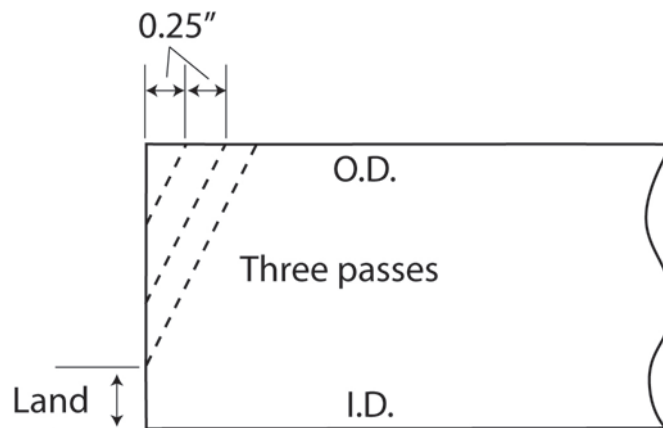

Figure 3-40. The diagram shows a straight bevel using multiple passes. Set the tool holder depth about 1/4" further back along the pipe O.D. for each pass.
- 10.** Loosen the tool holder cover screws and move the tool holder forward to the desired cutting depth along the side of the pipe. Typically, about 1/4" per pass is appropriate; multiple passes are usually required, as shown in Figure 3-40.